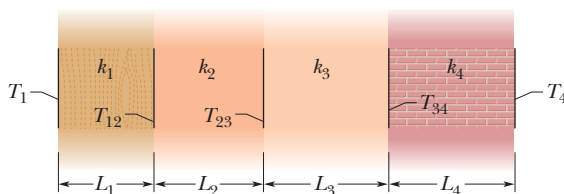

Figure 18-49 Problem 63.
••63  Figure 18-49 shows (in cross section) a wall consisting of four layers, with thermal conductivities  $k_1 = 0.060$  W/m·K,  $k_3 = 0.040$  W/m·K, and  $k_4 = 0.12$  W/m·K ( $k_2$  is not known). The layer thicknesses are  $L_1 = 1.5$  cm,  $L_3 = 2.8$  cm, and  $L_4 = 3.5$  cm ( $L_2$  is not known). The known temperatures are  $T_1 = 30^\circ\text{C}$ ,  $T_{12} = 25^\circ\text{C}$ , and  $T_4 = -10^\circ\text{C}$ . Energy transfer through the wall is steady. What is interface temperature  $T_{34}$ ?